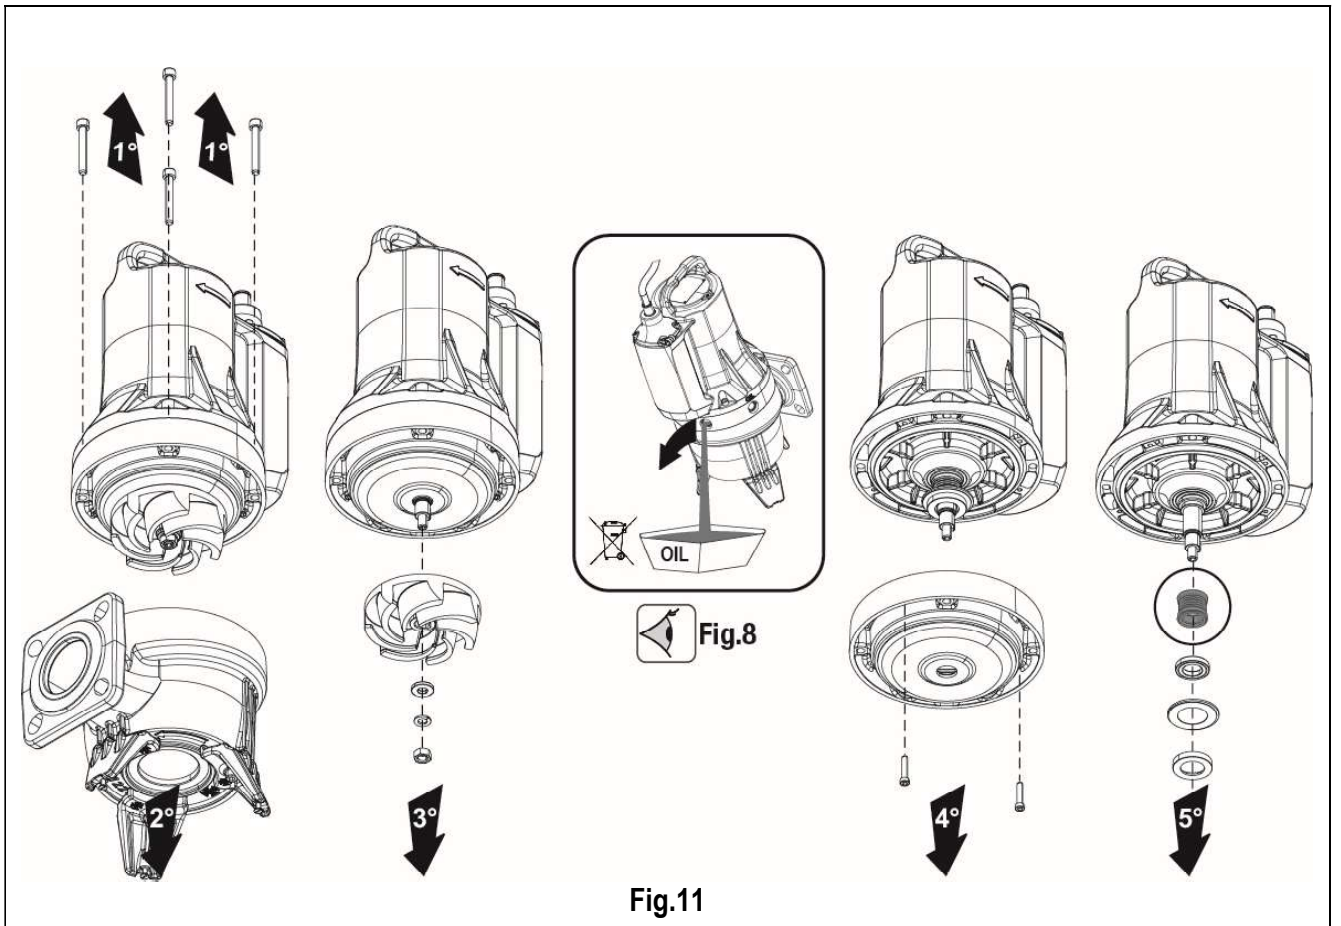

Fig.11
- Mechanical Seal replacement (Fig.11)